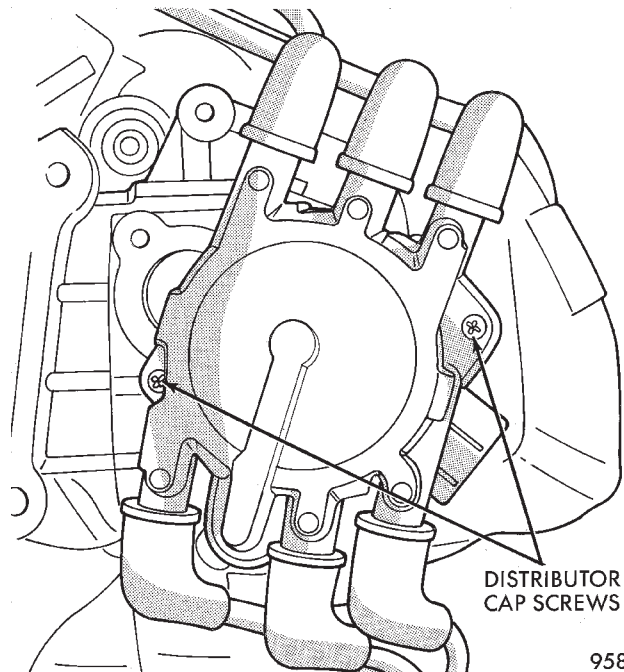

Fig. 48 Distributor Cap Screws
- (1) Remove bolt holding air inlet resonator to intake manifold.
- (2) Loosen clamps holding air cleaner cover to air cleaner housing.
- (3) Remove PCV make-up air hose from air inlet tube.
- (4) Loosen hose clamp at throttle body.
- (5) Remove air inlet tube, resonator and air cleaner cover.
- (6) Remove EGR tube.
- (7) Remove spark plug cables from distributor cap.
- (8) Loosen distributor cap holddown screws and remove cap (Fig. 48).
(1) Remove bolt holding air inlet resonator to intake manifold.
(2) Loosen clamps holding air cleaner cover to air cleaner housing.
(3) Remove PCV make-up air hose from air inlet tube.
(4) Loosen hose clamp at throttle body.
(5) Remove air inlet tube, resonator and air cleaner cover.
(6) Remove EGR tube.
(7) Remove spark plug cables from distributor cap.
(8) Loosen distributor cap holddown screws and remove cap (Fig. 48).
(9) Transfer cables from old cap to new cap. The cap is numbered and so are the cables.
- (9) Mark the rotor position and remove rotor. The mark indicates where to position the rotor when reinstalling the distributor.